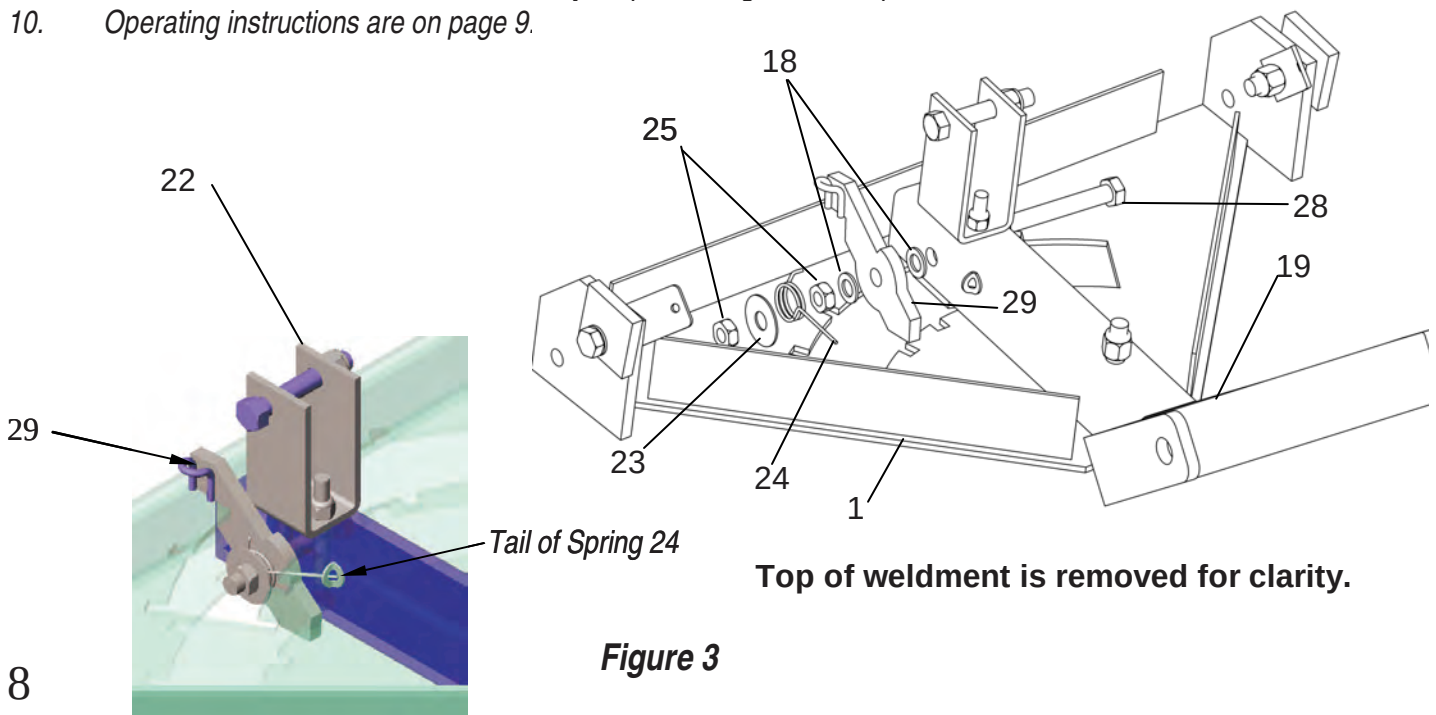

Figure 3
1. Disassemble Pivot Latch assembly from the plow mount. Lay parts down in the exact order they were removed. Replace lock nuts (25) with lock nuts in hardware kit.
2. Slide the plow mount (19) into pivot weldment (1), secure with ½-13 X 3 1/2 bolt (28) and ½-13 nyloc nut (13).
3. Re-assemble the Pivot Latch assembly in the reverse order that it was removed in step 1. The Pivot Latch assembly consists of the following components - lock arm (29), two bushing (18), two ½-13 lock nut (25), Washer (23), pivot spring (24) and ½-13 X 3 ½ bolt (28) to plow mount (19). Make sure the tail of the pivot spring is secured into the bent washer on plow mount, see fig 3. Note, lock arm should be able to pivot freely after assembled.
4. Bolt plow mount bracket (22) and plow bracket support (27) to plow mount (19), as shown, using two 3/8-16 X 3 bolts (30) and two 3/8-16 nyloc nuts (7).
5. Insert ½-13 X 3 bolt (26) into plow mount bracket (22) and secure with ½-13 nyloc nut (13). Do not over tighten as this can bend the plow mount bracket. This is where you will attach your winch or manual lift pulley, sold separately.
6. With your Swisher ATV Accessory Mount already installed, attach the plow using plow mount pin (20) and two 3/16 click pins (21).
7. Attach red rope (31) to eyelet on lock arm (29) and loop over front of ATV so it can be reached by the operator.